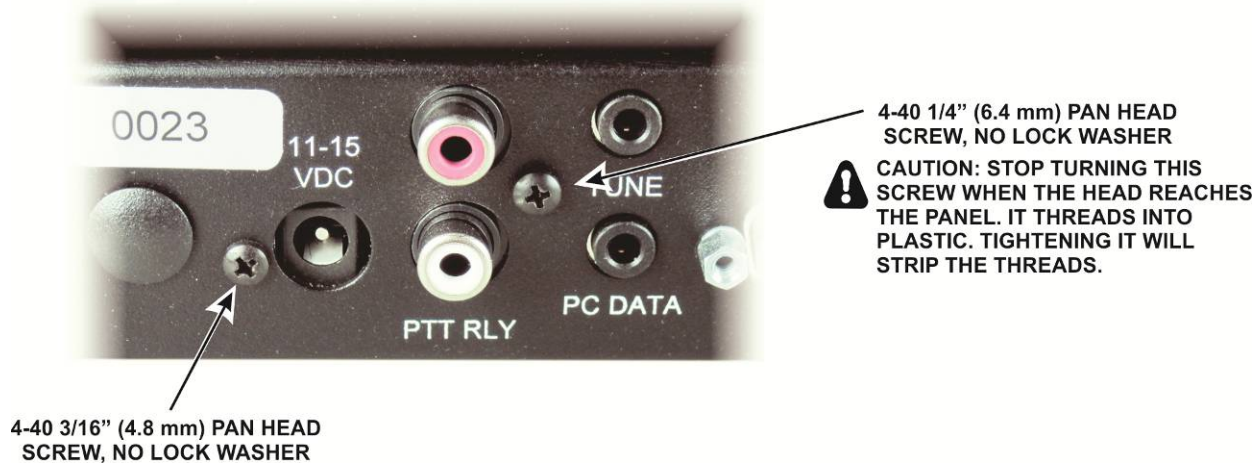

Figure 29. Installing Rear Panel Pan Head Screws.
- Install the two pan head screws shown in Figure 29. **Stop turning the screw indicated when the head reaches the rear panel. It threads into plastic and the threads will easily strip.**